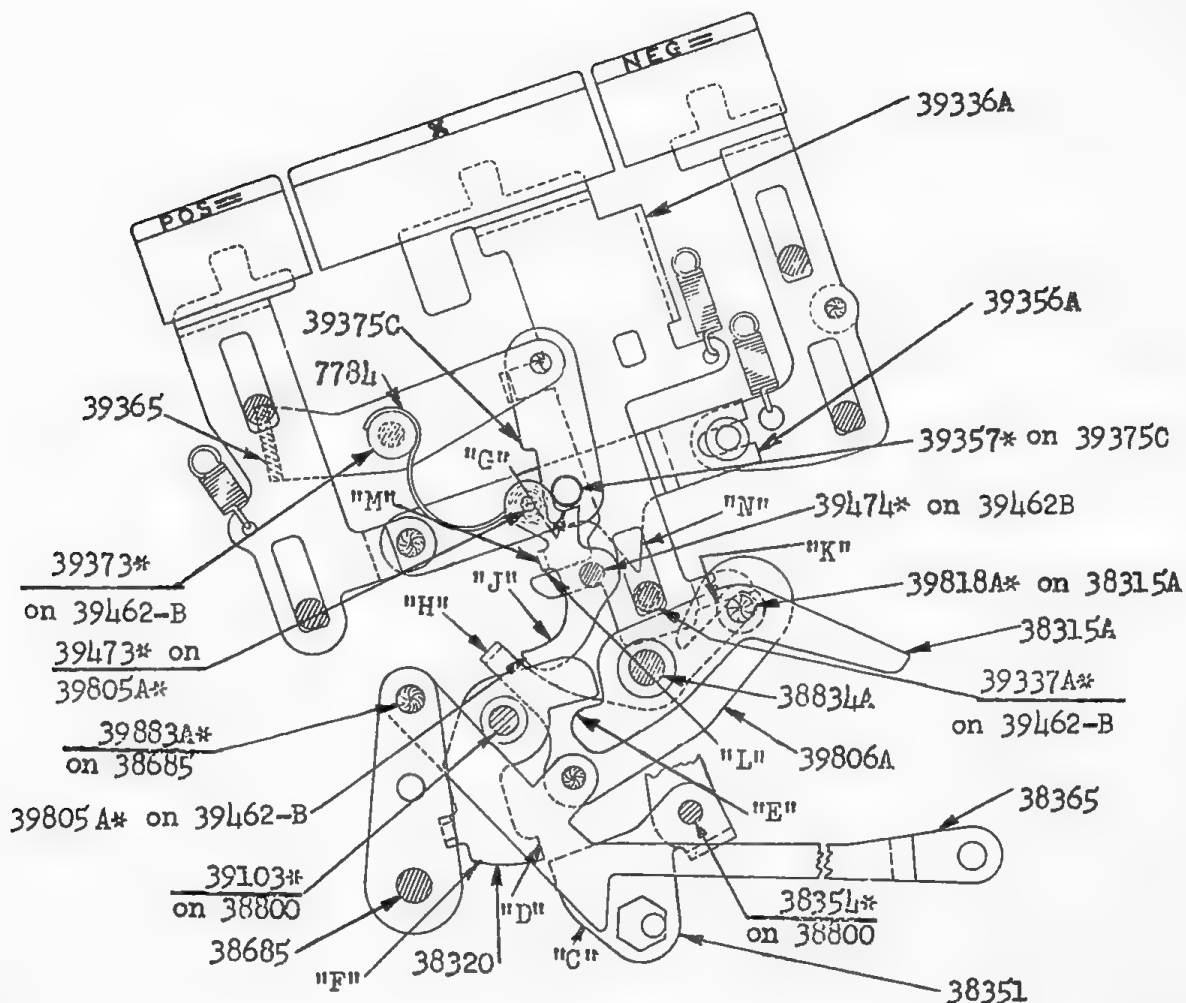

FIG. 83
1. (Fig. 83). While the Add Operating Lever-39305 is rocked, it holds the Add Restore Bail-38351 in its clockwise position where its surface "C" blocks surface "D" on the Add-Multiply Interlock-38320 from rocking counter-
1. (Fig.83) The depression of an Equals Key upon X-Key depression must be delayed until the multiplier operation is completed. This necessitates a double-step interlock which functions as follows: A Block-39805A* on the Multiplier Sub Frame 39462B has a surface "G" which underlies Stud-39357* on 39375C, blocking the Equals Key when the machine is at rest. The Control
1. (Fig.83). Simultaneous depression of